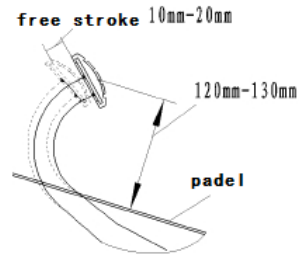

figure 15
(1) Shorten the putter
(2) Adjust pedal limit bolt .Shown as figure 15,adjust the pedal height